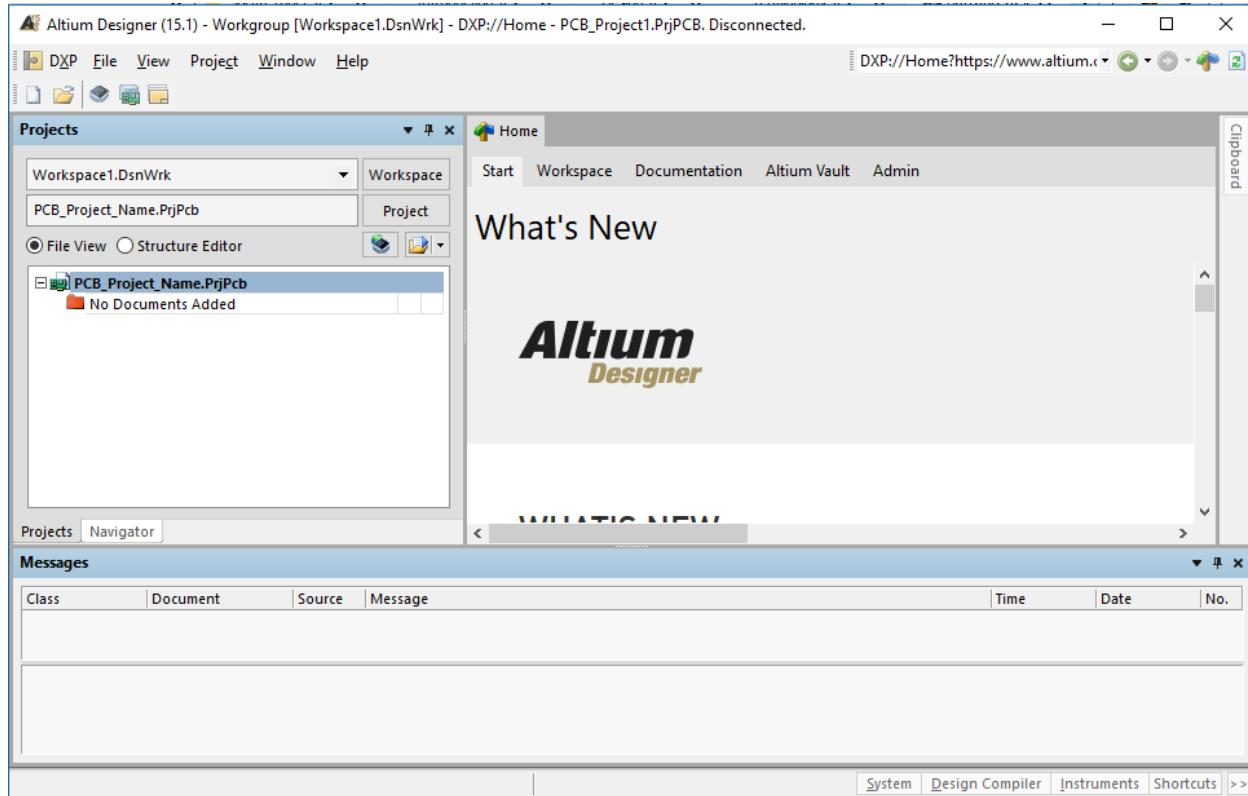

Figure 13: Altium empty Project.
5. The Altium generated now an empty project which appears in the Project view bar on the left side as shown in Figure 13. The project does not contain any documents yet.